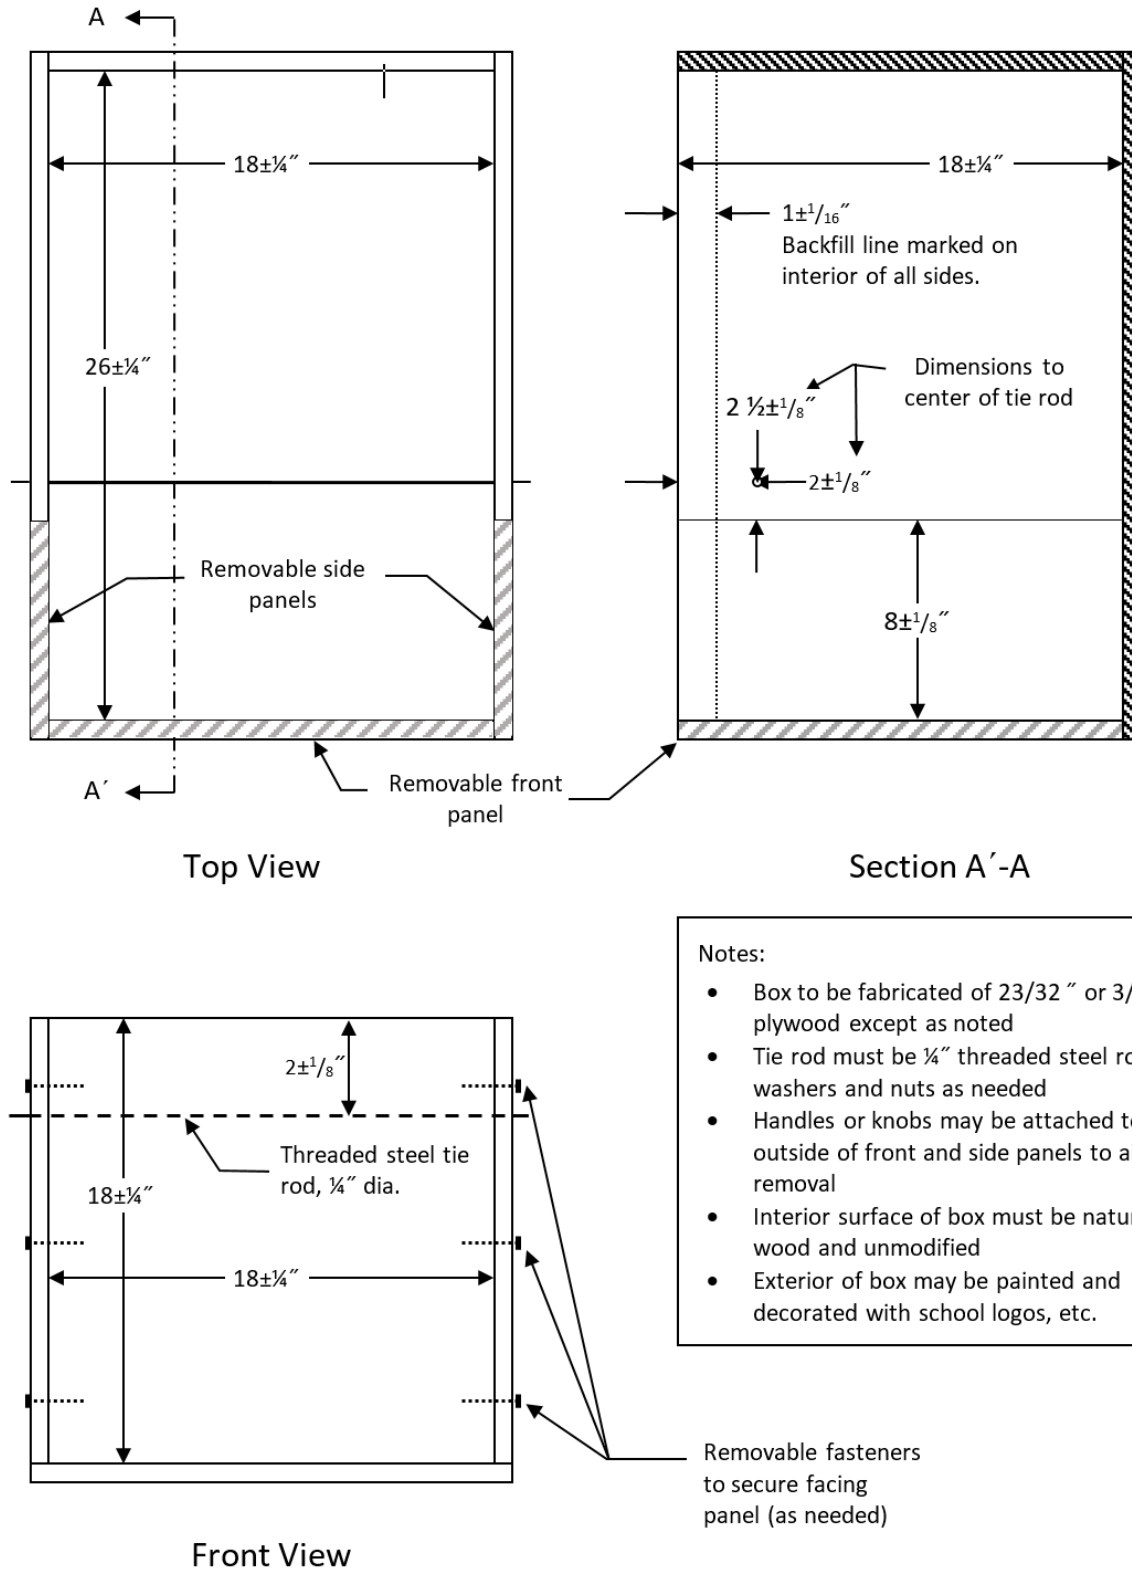
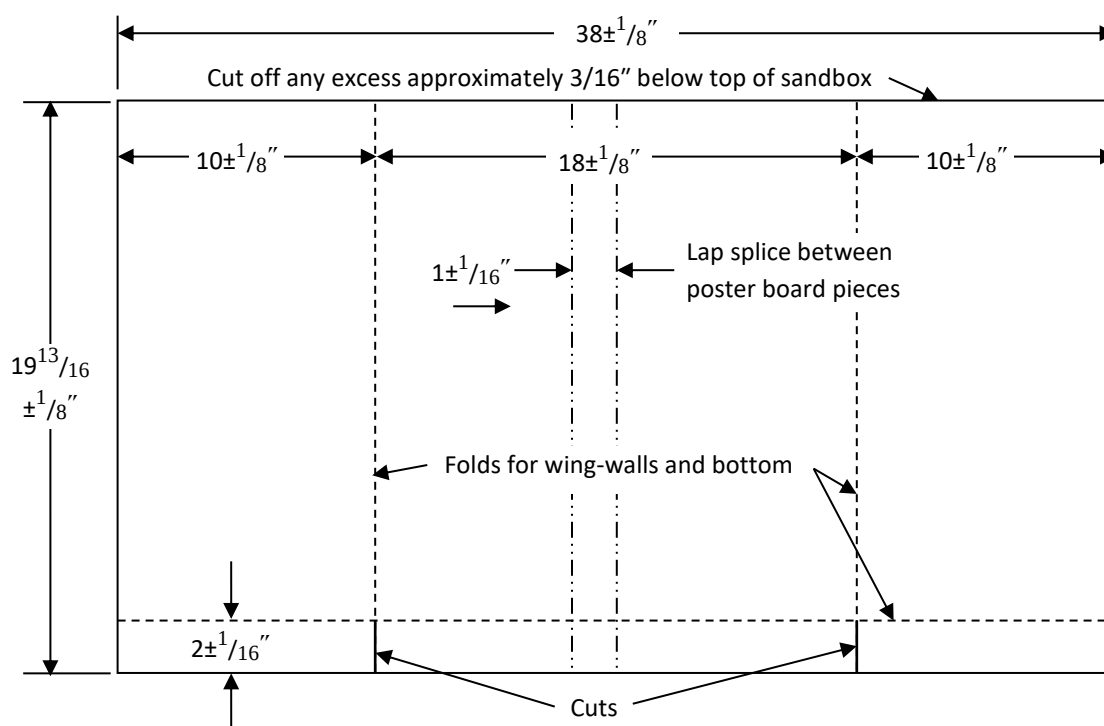

Figure 2: Sandbox dimensions (not to scale)
Figure 4: Dimensions of the poster board wall facing (not to scale)
6. **Sandbox** – The MSE wall will be constructed within an apparatus hereafter referred to as a sandbox. Each team shall bring their own sandbox to the competition. Painting and addition of school or sponsor logos and other decorations to the exterior of the sandbox is highly encouraged. The sandbox shall be made up of a bottom and four vertical sides with no top. The front panel and part of the two side panels will be removable as shown in Figure 2. The removable box panels will be in place during wall construction and removed after construction to expose the MSE wall. The sandbox will meet the following requirements:
- c) Have removable front and side panels as shown in Figure 2. Panels must be flush with the base of the box and held in place with threaded inserts, screws, hinges or other easily removable fasteners.
- g) All dimensions of the sandbox shall be as shown in Figure 2.
- Facing – Two pieces of poster board must be joined with a lap splice. See Figure 4 for dimensions.
- a) **Reinforcement Fabrication Stage** – Each team will be provided with a single sheet of 60 lb kraft paper approximately 24" × 24". The team must fabricate all their reinforcing elements from this sheet using authorized construction tools. Fifteen (15) minutes will be allotted for this stage. Teams will be penalized for time exceeding the time limit. After all reinforcing elements are fabricated, excess material will be disposed of and the judges will weigh the reinforcing elements to the nearest 0.01 grams.
- b) **Wall Assembly Stage** – After each team's reinforcing elements have been fabricated and weighed, the team will be provided with two sheets of poster-board (22" × 28") and a roll of packaging tape. The team must assemble their wall using these materials and authorized construction tools. Dimensions for the wall facing are shown in Figure 4.
- i) Tape may be used for only two purposes: 1) to join the two poster-board sheets along the lap splice (Figure 4) to form the wall facing and 2) to attach reinforcement to wall facing. The poster-board sheets must be joined using a single lap splice not exceeding 1" to form the wall facing. A single continuous strip of tape may be used on each side of the poster-board to join the poster-board sheets. The tape must be in contact with only the two poster-board sheets. No other adhesives may be used to join the poster-boards.
- iv) The wall should be trial-fitted to the sandbox during this stage. Any portion of the wall that rises above an imaginary line that is 3/16" below the top of the sandbox must be trimmed off. The assembly stage is complete when the facing material is properly folded and trimmed, all the reinforcing elements are attached to the facing, and the wall is placed in the sandbox. No sand is added to the box in this stage. Fifteen (15) minutes will be allotted for this stage. Teams will be penalized for time exceeding the time limit. Judges will check to ensure the wall is properly assembled.
- c) **Construction Stage** – After the wall is assembled and checked by the judges, the judges will instruct the team to start construction. During this stage, the team fills the box with sand so that the sand fill line (see Figure 2) is covered and the backfill is level, and places the empty rectangular vertical surcharge bucket on top of the sand. The facing material must be in direct contact with the inside of the sandbox at all times during this stage. The tie rod may be removed from the box at the start of this stage, but it must be in place before any sand is placed in the box. Temporary templates or guides may be used during this stage so long as they are removed before the end of the stage.